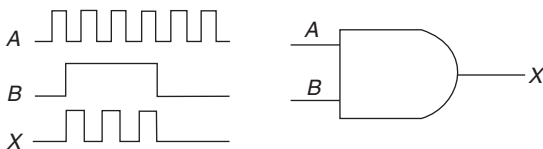

Fig. 4.7
4.8 Determine the output waveform for the AND gate in Fig. 4.7.